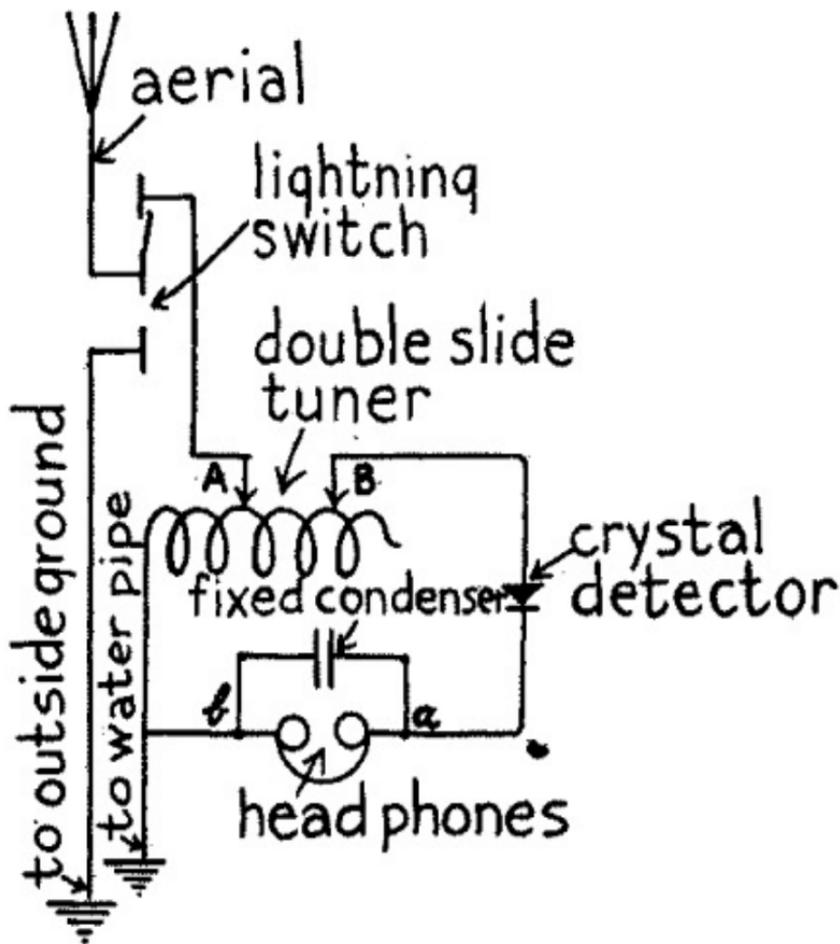

FIG. 14.—Pair of Wireless Head Phones.
*About Telephone Receivers.*--There are a number of makes of head telephone receivers on the market that are designed especially for wireless work. These phones are wound to *resistances* of from 75 *ohms* to 8,000 *ohms*, and cost from \$1.25 for a receiver without a cord or headband to \$15.00 for a pair of phones with a cord and head band. You can get a receiver wound to any resistance in between the above values but for either of the simple receiving sets such as described in this chapter you ought to have a pair wound to at least 2,000 *ohms* and these will cost you about \$5.00. A pair of head phones of this type is shown in *Fig. 14*.